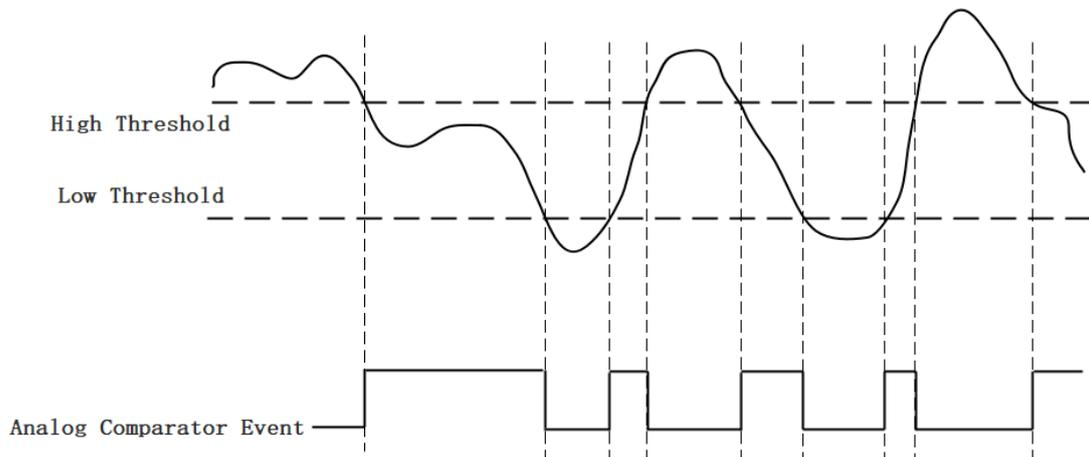

Figure 19 Entering Window Trigger
*Entering Window Trigger*: The window comparator output is high when the signal enters the window defined by the *Low Threshold* and *High Threshold*. The output will change to low when the signal leaves the window as shown in Figure 19.